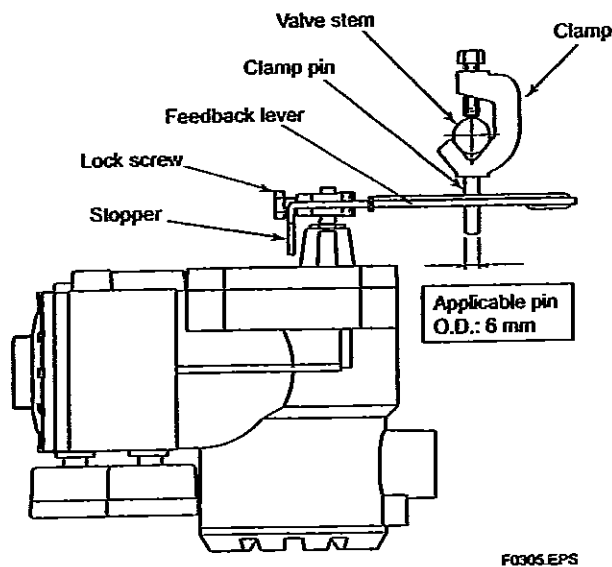
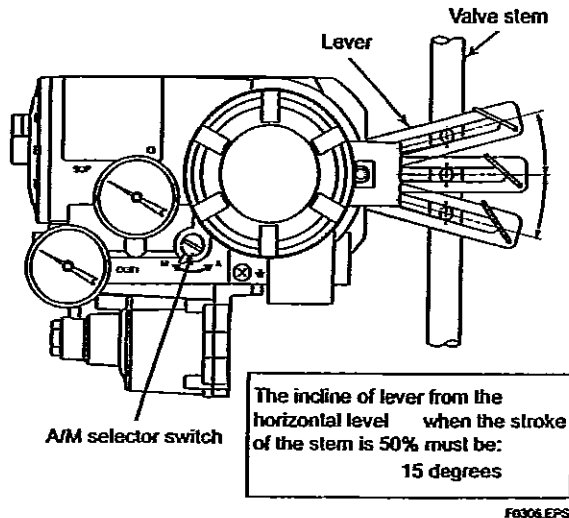

Figure 3.5 Attaching Lever and Clamp
Figure 3.6 Checking Position at Which Clamp Should Be Fixed
- (1) Insert the FVP110's feedback shaft into the small hole on the stopper side of the lever as shown in Figure 3.5.
- (2) Attach the clamp to the stem in reference with Figure 3.5. It is necessary to set the clamp of the FVP110 in a position that allows the feedback lever to be at an angle within ± 15 degrees from the horizontal level when the valve stem is at the 50% position (see Figure 3.6). Installing the FVP110 at a carefully determined position, where the feedback lever is at the horizontal level when the valve stem is at the 50% position, will make the consequent installation work easier.